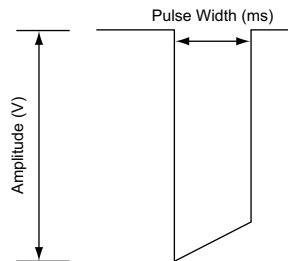

Figure 2-6. Pulse waveform
- The energy delivered to the heart is directly proportional to the Pulse Width; doubling the Pulse Width doubles the energy delivered. Therefore, programming a shorter Pulse Width while maintaining an adequate safety margin may increase battery longevity. To prevent loss of capture, exercise caution when you are programming permanent Pulse Width values of less than 0.3 ms (Figure 2-6 on page 2-15).
The pulse amplitude, or voltage of the output pulse, is measured at the leading edge of the output pulse (Figure 2-6 on page 2-15).